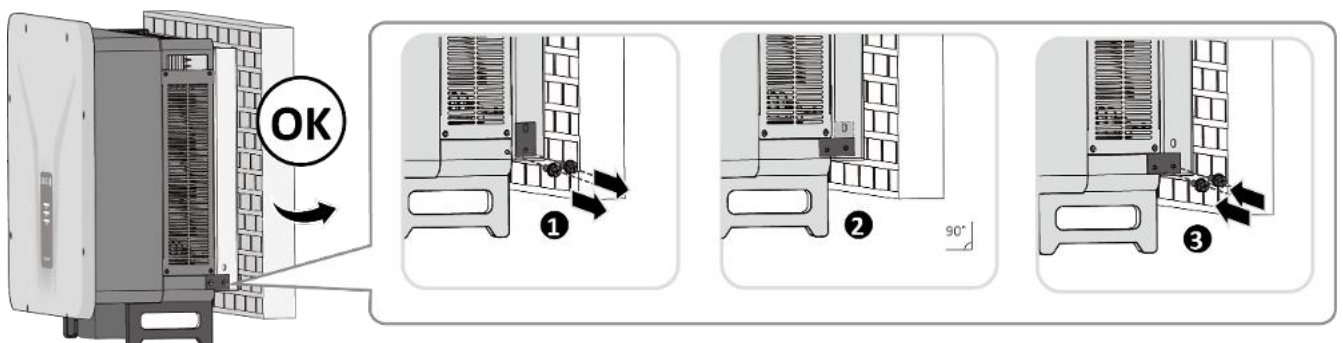

Fig. 12. Secure the inverter
3. Insert the screw provided into the lug of the mount and secure the device to prevent it from being lifted off (see Fig. 12). [ $\times P$  /  $\text{mm}$  2.5 Nm]